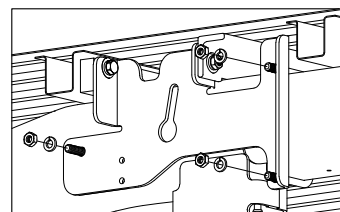

Figure C8: View from outside of Driver Side Frame.
5. **Install U-Bolt.** Install the U-bolts from inside the frame. Place the U-bolt against the frame staying under the wiring harness and brake line. While making certain that nothing is between the frame and U-bolt, raise the U-bolt until the top leg is level with the top of the frame rail. Then turn the legs toward the outside so that the U-bolt straddles the frame and the legs pass through the two holes in the sideplate. Attach the carriage bolt and U-bolt with 1/2" hardware, as shown in figure C8. (Do not tighten hardware at this time.)